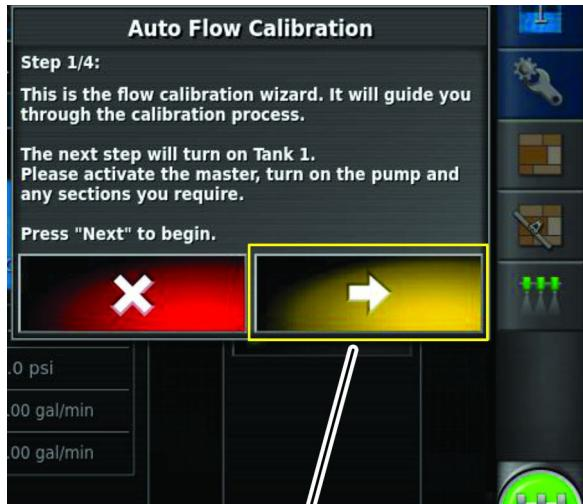

Figure 169
1. In step 1 of 4 of the auto flow calibration wizard, press the next button (Figure 169).